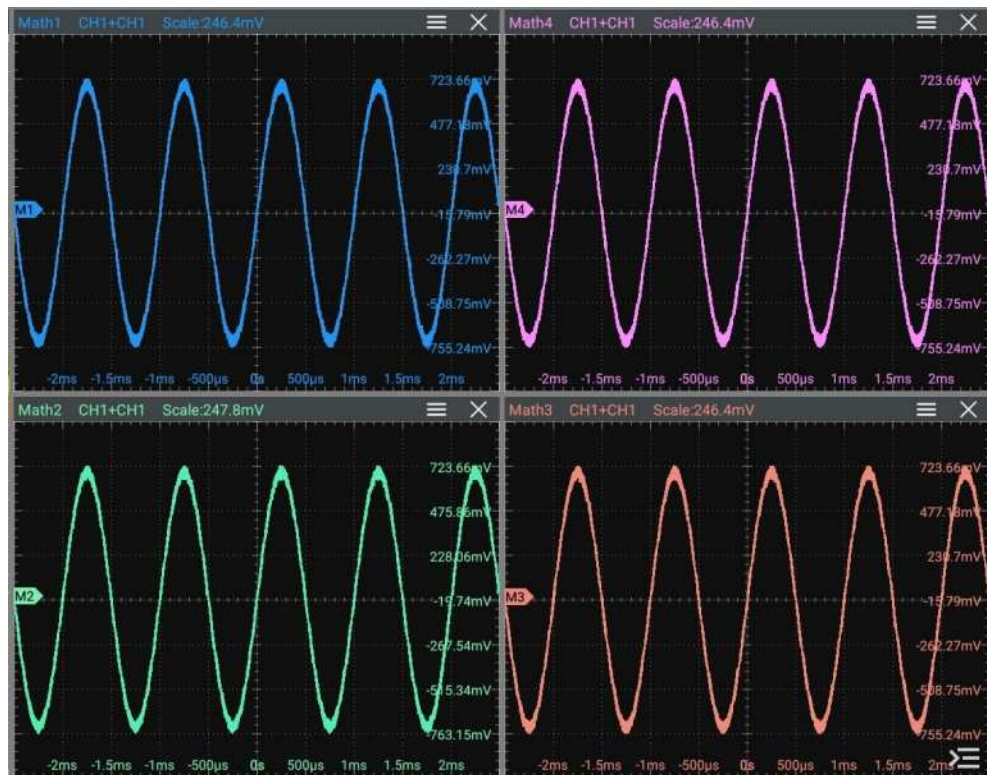

Figure 9.2 Waveform Display Window of the Operation Results
- Click or tap the Math1 ~ Math4 label at the bottom of the screen, and the corresponding interface appears on the screen, as shown in Figure 9.2. Click or tap the label again, or the icon  at the upper-right corner of the window to enter the math operation menu.
In the **Math** menu, click or tap the ON/OFF tab for the **Operation** menu to show or hide the waveform display window of the operation results. By default, it is OFF. When set to ON, the figure as shown in *Figure 9.2* is displayed on the screen.